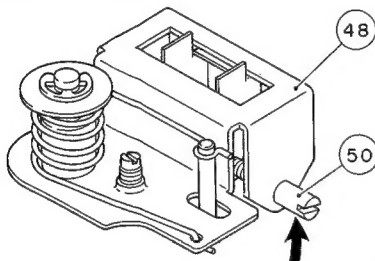
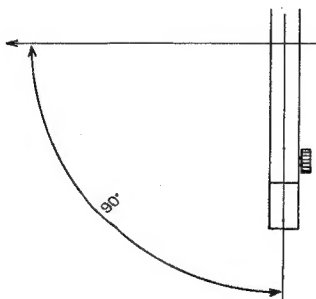

Figure 21
Figure 22
1. Remove the case top according to DISASSEMBLY INSTRUCTIONS (B) (page 3).
2. Turn the Adjuster (50) described in Fig. 21 so that the tonearm will be mounted at right angles with its moving direction (Fig. 22).